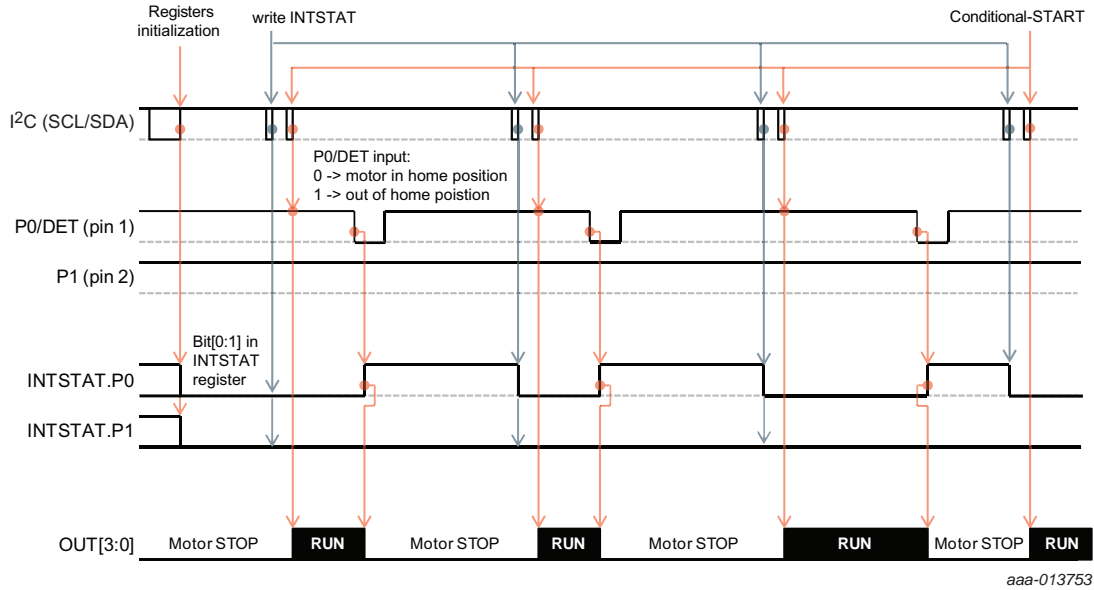
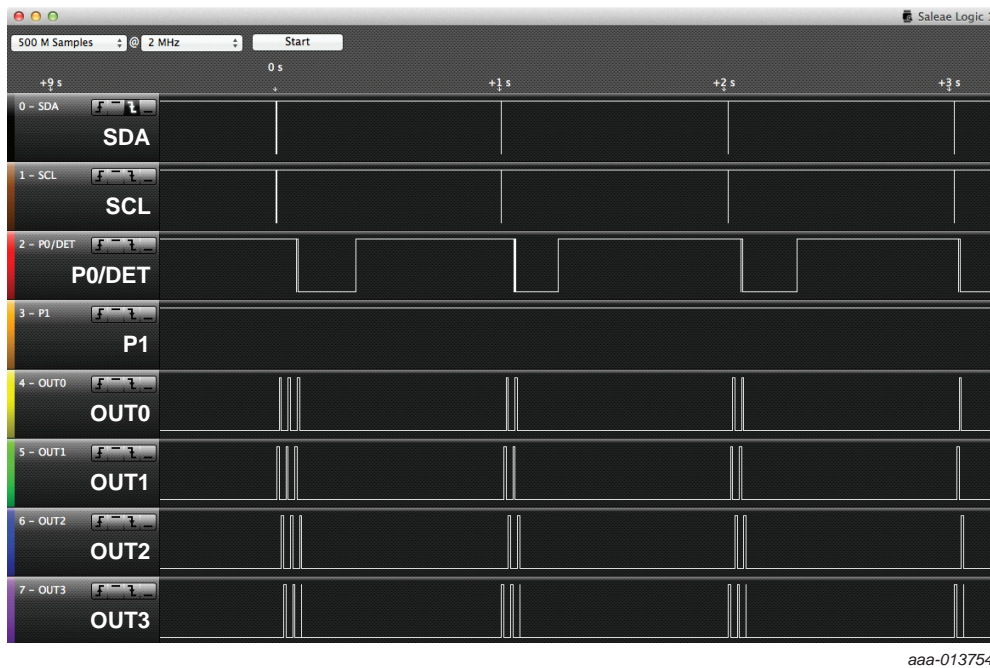

Fig 25. Motor home-position control (option 1) signals with internal interrupt status bits
Fig 26. Motor home-position control (option 1) signal waveforms
- **Write MCNTL = 0x90h** — to conditional-start motor if P0 input state is HIGH, then motor is started until the P0 input state is detected as LOW (motor is moved to right position) as shown in Figure 25 and Figure 26 for control signals and waveforms.